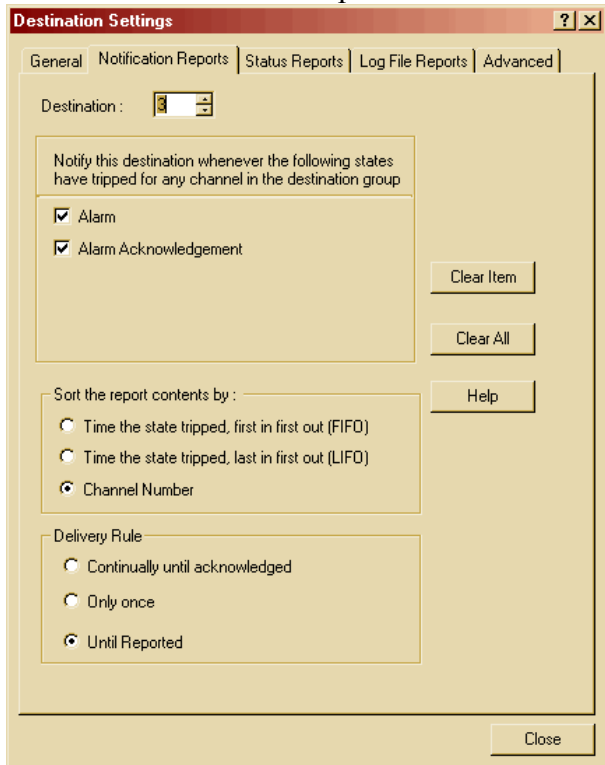

Figure 28: Destination Settings, Notification Reports
26. Select the **Notification Reports** tab for Destination #3 and configure it as shown in Figure 28. .